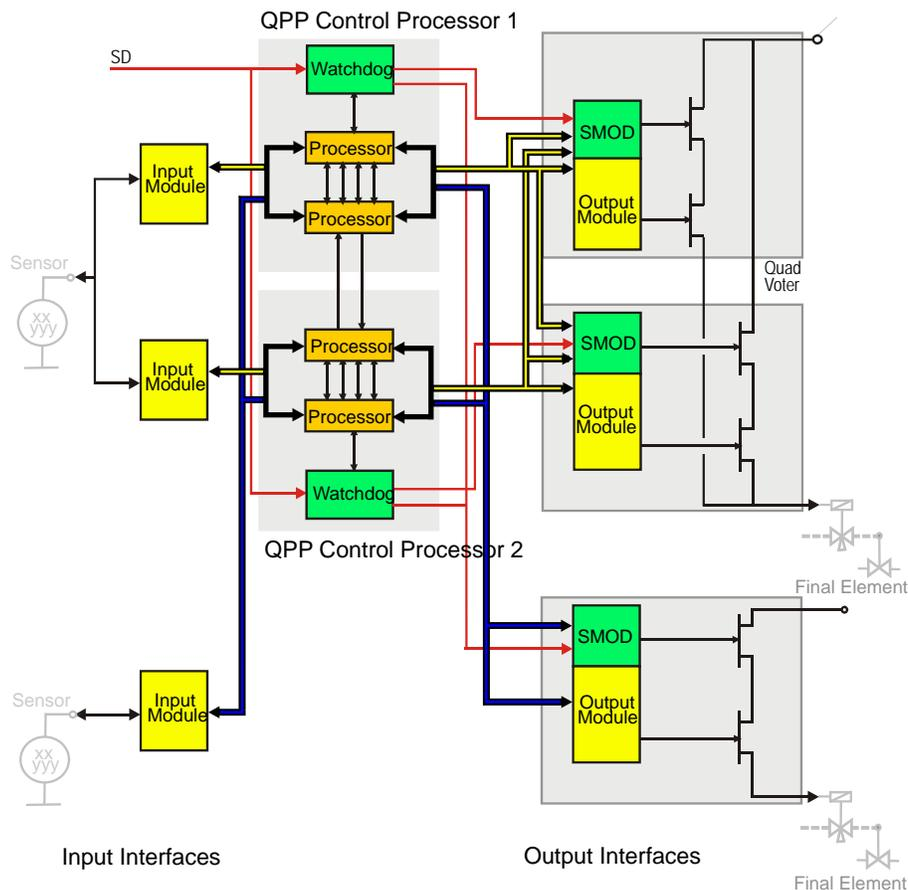

Figure 20 — Functional diagram: redundant Controller with redundant and non-redundant IO
This Safety Manager architecture has a redundant Controller and redundant input and output (IO) modules (OR function outputs) combined with non-redundant input and output modules (see Figure 19 and Figure 20 below). This architecture can be applied up to and including SIL3.